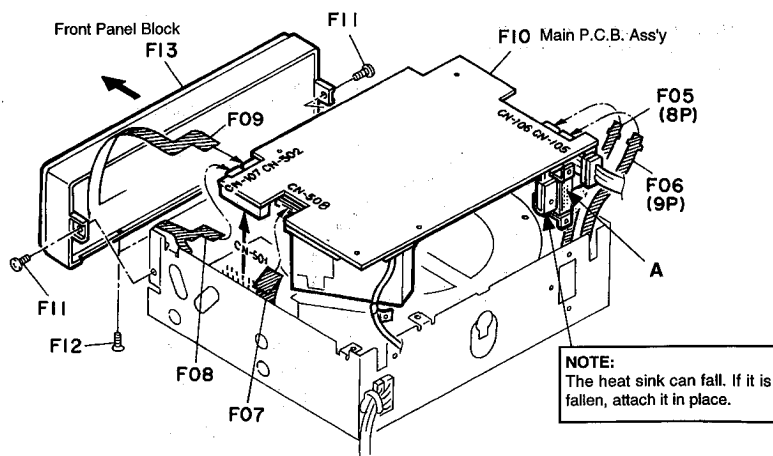

Fig. 2.3.2
- (1) Remove the Top Cover Ass'y. See item 2.2.
- (2) Remove the screws F01 (M2x1.8 + Pan, 5 pcs.), F02 (M2.6x3 + Pan, 2 pcs.), F03 (M2.6x8 + Pan, 1 pce.) and F04 (M3x3 + Binding, 1 pce.).
- (3) Gently lift the CN-501 part (the right front part) of F10 (Main P.C.B. Ass'y) to disconnect CN-501 from the CD P.C.B. Ass'y on the Mechanism Ass'y. Refer to Fig. 2.3.2.